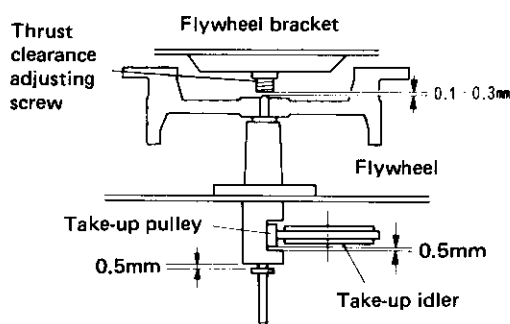

Figure 11-3
2. Check the take-up idler is pressed against the take-up pulley as shown in Fig. 11-3.